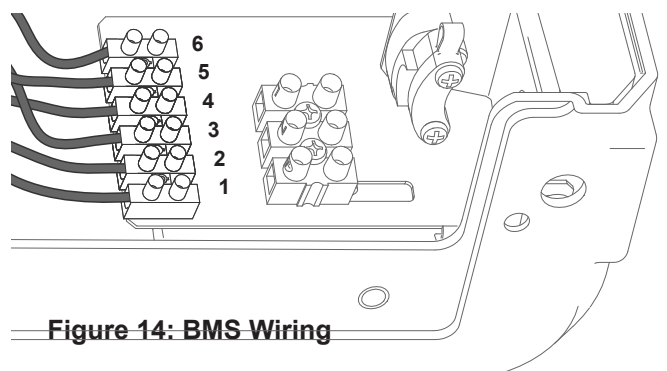

Figure 14: BMS Wiring
- ▶ To connect the unit to a Building Management System refer to the electrical wiring diagram in section 3.3, figure 3, page 8 and Figure 14 below.